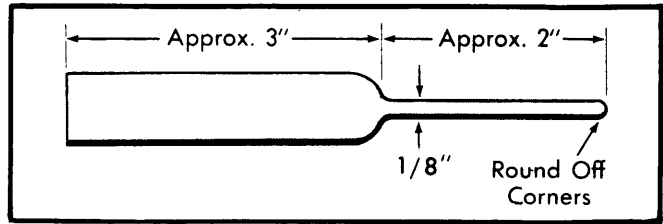

Fig. 5 Oil Seal Installing Tool
1) To install lower half of seal in bearing cap, slide end of seal into position at one end of cap and place suitable tool (See Fig. 5) made from shim stock in groove at other end of bearing cap.
Installation — 1) To install lower half of seal in bearing cap, slide end of seal into position at one end of cap and place suitable tool (See Fig. 5) made from shim stock in groove at other end of bearing cap. Lip of seal must face front of engine. Install seal half using tool as a "shoehorn" ensuring seal is flush on each side.